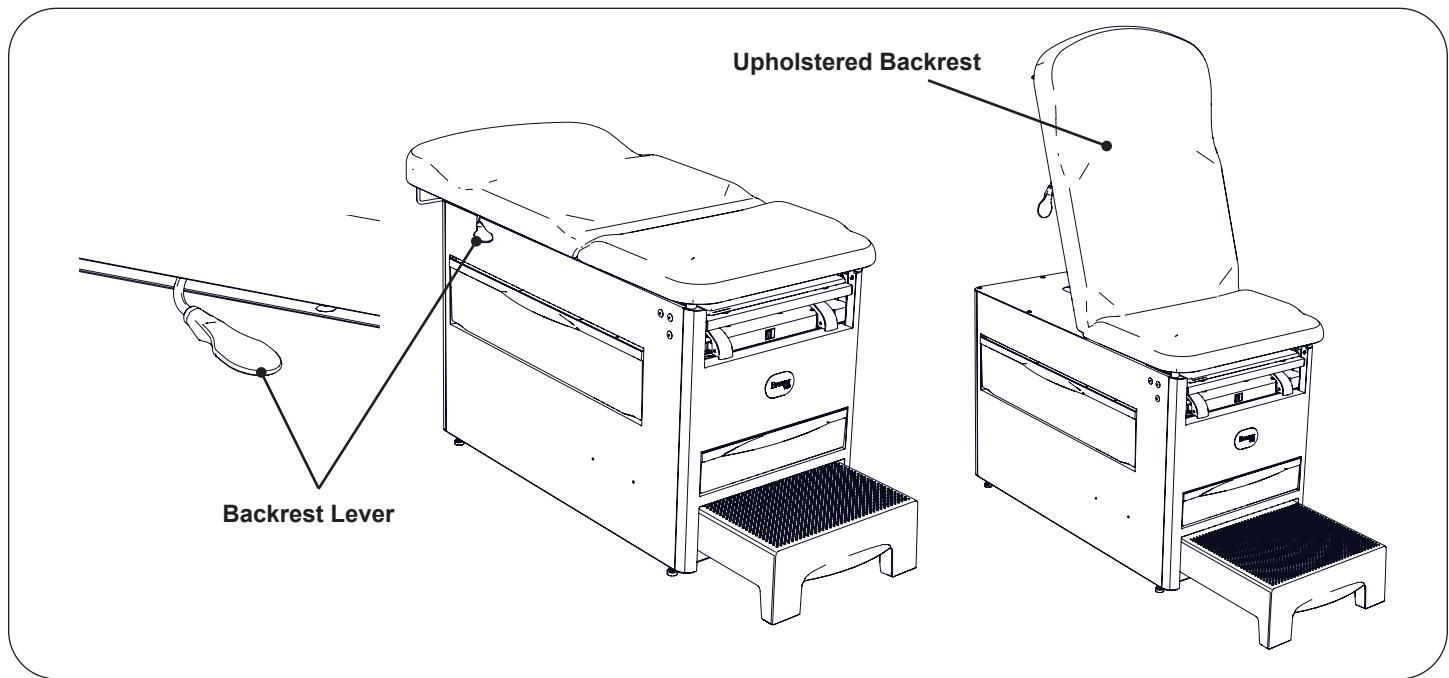

Figure 15. Operation of Upholstered Backrest
1. Press and hold the backrest lever, lift upholstered backrest upward to raise (Figure 15). Releasing the lever will automatically lock the table in the desired position.